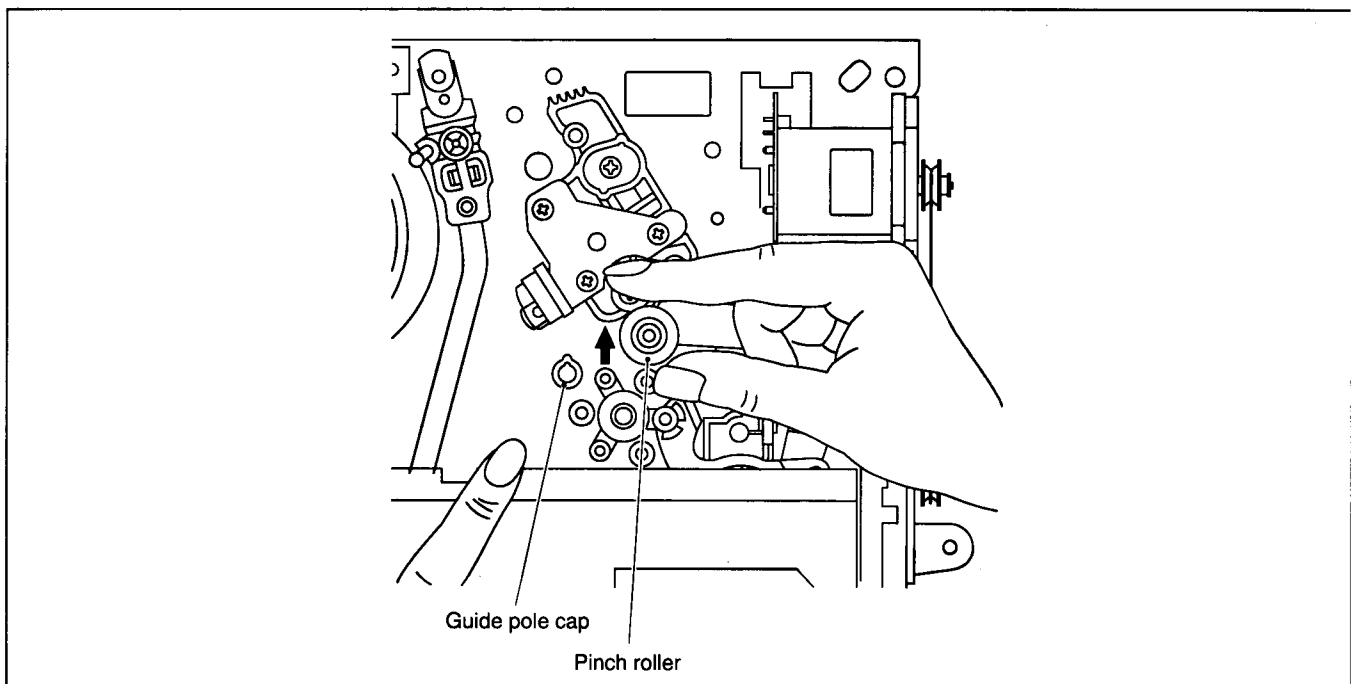

Fig. 2-1-4
(3) Remove the top plate as done in Step (4) of "1. In case of electrical failures" and remove the guide pole cap at the same time. (See Fig.2-1-4).
(4) While lifting the cassette tape lid, hold the cassette tape case and pinch roller by the fingers and move them toward the loading motor to relieve pressure on the tape. Then remove the tape while taking the cassette case out of the cassette holder. (See Fig.2-1-4).
(5) Replace the guide pole cap and take up the slack of the tape into the cassette.